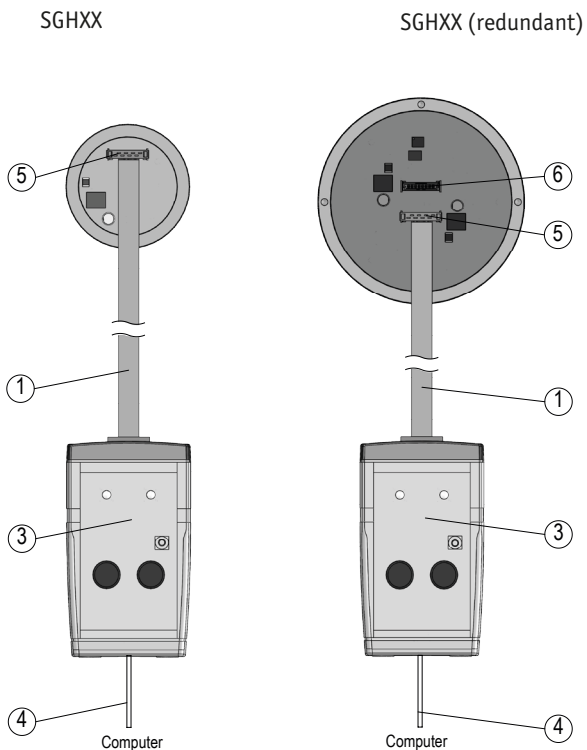

Fig. 2: Connection at the wire-actuated encoder with ribbon cable
Before installation of the wire-actuated encoder into the cylinder, the ProTool SGH can also be connected directly to the flat ribbon cable. This must be plugged into PCB connectors 1 ⑤ and 2 ⑥ (see Fig. 2).